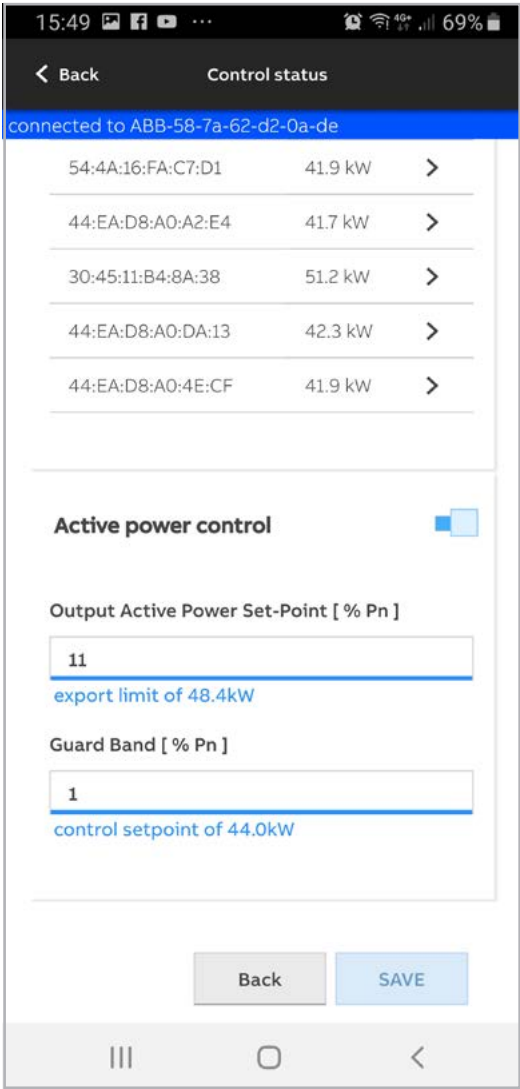

Figure 24 - Export monitoring: adjust settings
- Figure 24 - Export monitoring: adjust settings